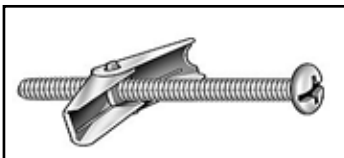

Figure 3 3/16 Toggle-Bolt Anchor
- For each of the marked mounting point locations, determine which points align with a structural framing member. A minimum of two (2) locations must be secured into a framing member.
- For every mounting hole that does not align with a structural framing member, a wall board toggle-bolt anchor must be used. See Figure 3.